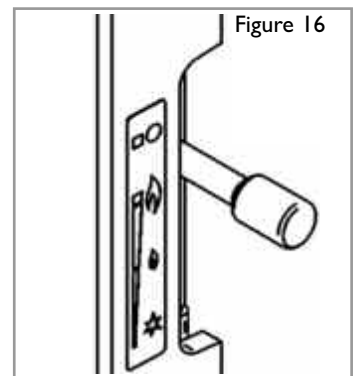

Figure 16
**SLIDE CONTROL MODELS :** The control knob is supplied as a loose part. Insert the control knob into the hole in the top of the slide control spindle (Figure 6). Secure the control knob in position using the M4 nyloc nut provided. Affix the Slide control position marking sticker on the trim next to the control knob as shown in figure 16.